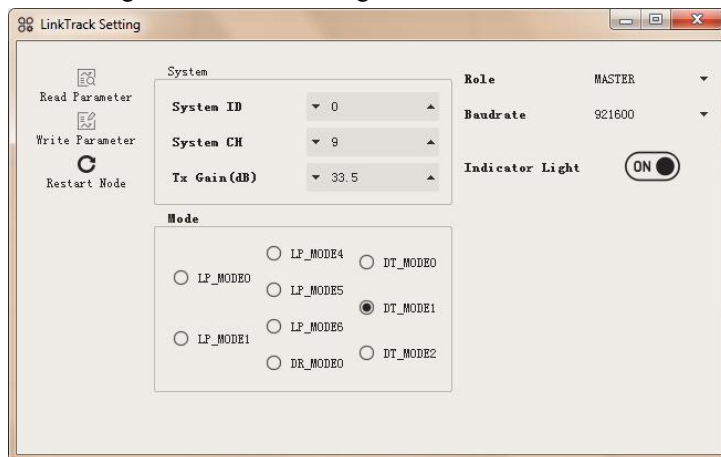
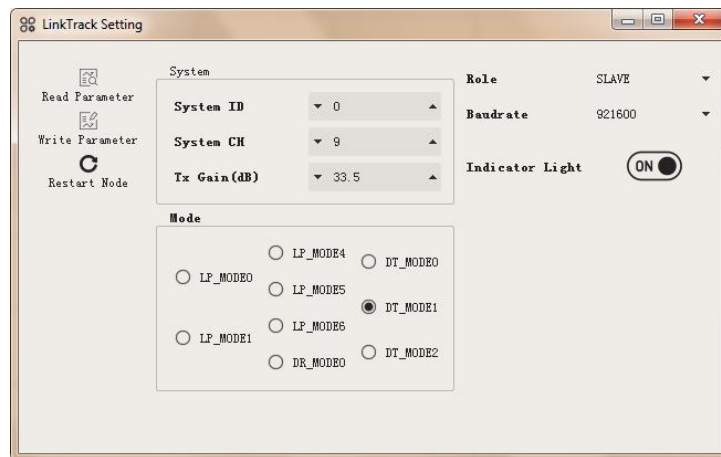

Fig. 14: M Setting diagram under DT_MODE1
Fig. 15: S Setting diagram under DT_MODE1
1. **【Configure the System】** Prepare 2 LT nodes, configure one node as 1 MASTER, abbreviated as M through NAssistant, and configure the other node as SLAVE, abbreviated as S. Fig. 14 shows the Setting of M and Fig. 15 shows the Setting of S.